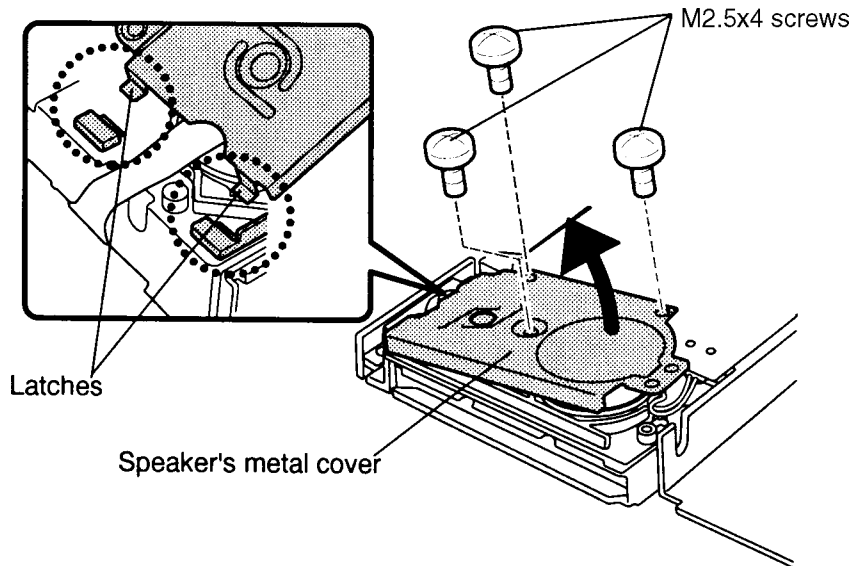

Figure 4-36 Removing the speaker's metal cover
5. Remove the **three M2.5x4 screws** securing the **speaker's metal cover**, then lift up the front side to disengage **two latches** on the back side and remove the cover (Figure 4-36).
4. Fit the back of the **speaker's metal cover** into the **latches** on the base assembly and secure the cover with **three M2.5x4 screws** (Figure 4-36).